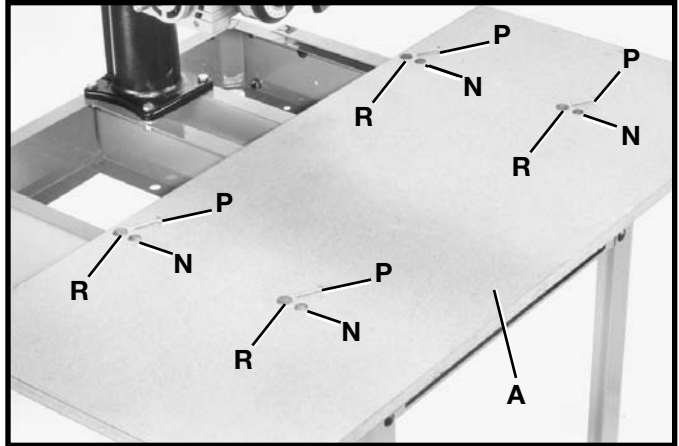

Fig. 21
6. When both right and left edges of the table board are the same distance from the table supports, tighten four screws located in holes (N) Fig. 21, of front table board (A).
7. Insert four 1/4"-20 x 1-1/4" long pan head screws (P) Figs. 21 and 22, into holes (R) Fig. 21, of table board as shown, and tighten each of the screws until each corner of the table board raises approximately 1/8".